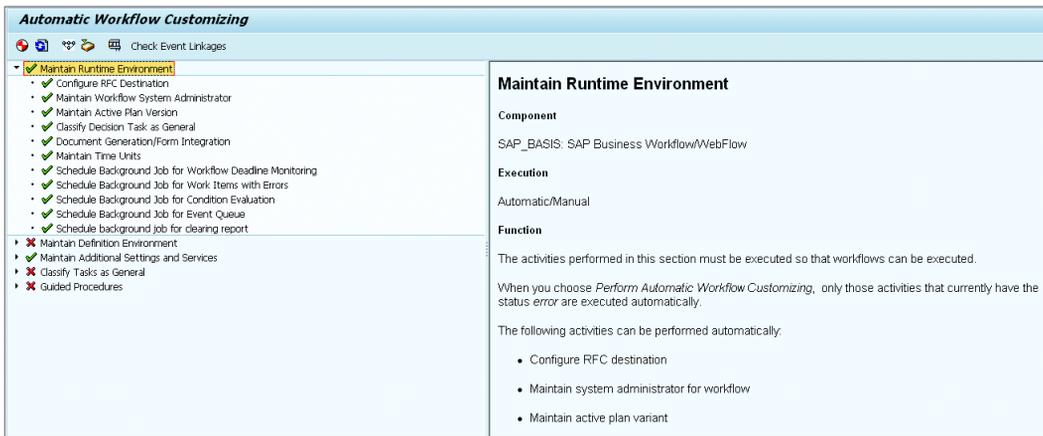

Figure 9.39 Maintaining Workflow Standard Settings
1. Activate the workflow customizing, which is carried out in SAP NetWeaver under APPLICATION SERVER • BUSINESS MANAGEMENT • SAP BUSINESS WORKFLOW • MAINTAIN STANDARD SETTINGS (see Figure 9.39).